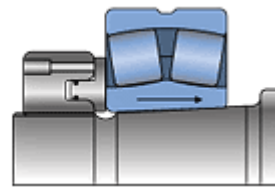

Fig. 2 One sliding surface
2. Determine whether there are one or two sliding surfaces during mounting; see figures 2 - 5.